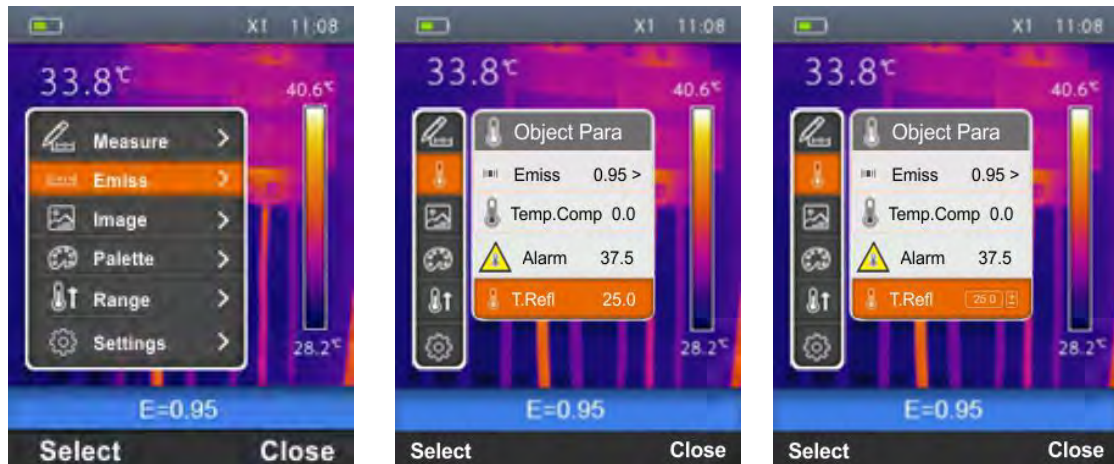

Fig. 21: Setting the Reflected Temperature on the instrument
1. Select the item “T. Refl.” using the keys \oplus or \ominus and press the key “Select”. The screen Fig. 21 – Central part is shown on the display